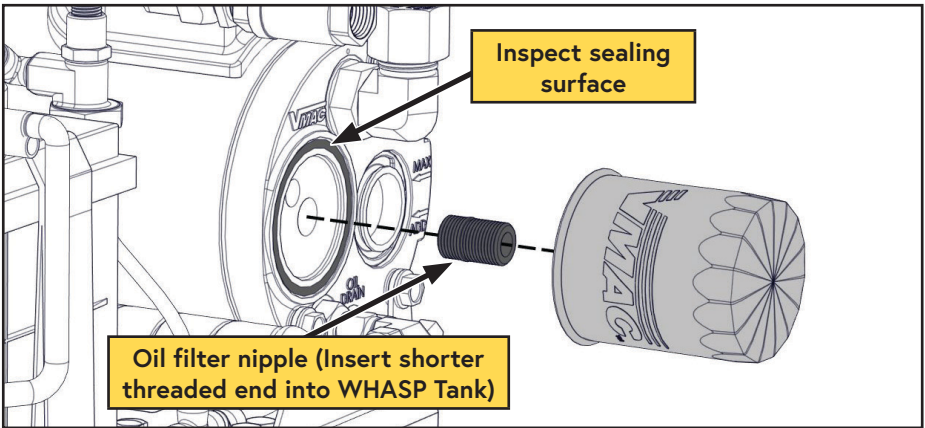

Figure 34 — Compressor oil filter
- \*To reinstall the nipple, thoroughly clean the threads and apply Loctite 242 (blue) to the end with the short threads and replace it in the AOST (Figure 34).
- Clean the gasket sealing surface on the front of the tank and inspect it for damage. The surface must be free of old gasket material and smooth to ensure a good seal (Figure 34).